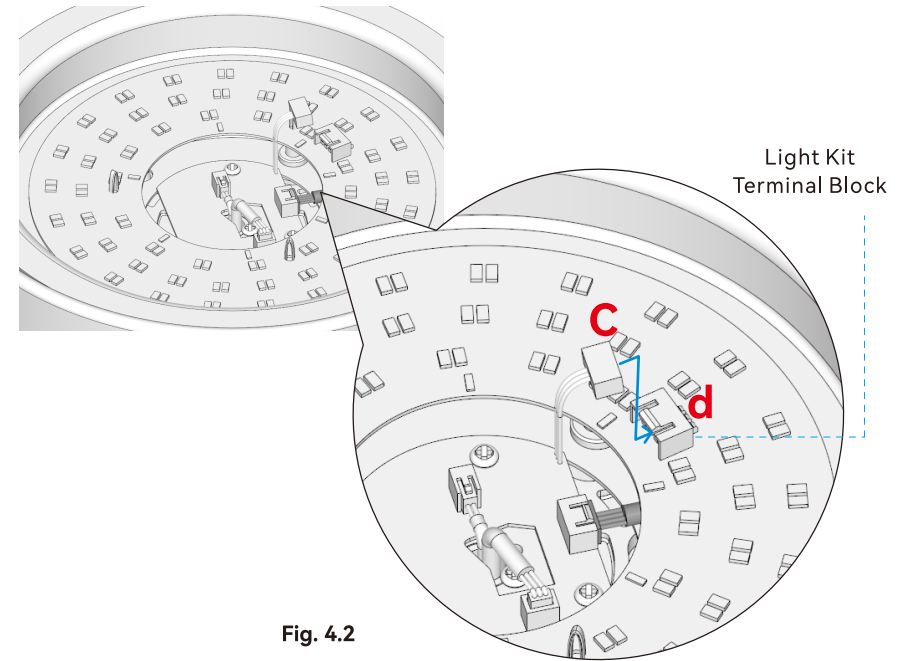

Fig. 4.2
4.5 Insert the wire plug **(c)** into the light kit terminal block **(d)** on the light kit as shown in Fig. 4.2.